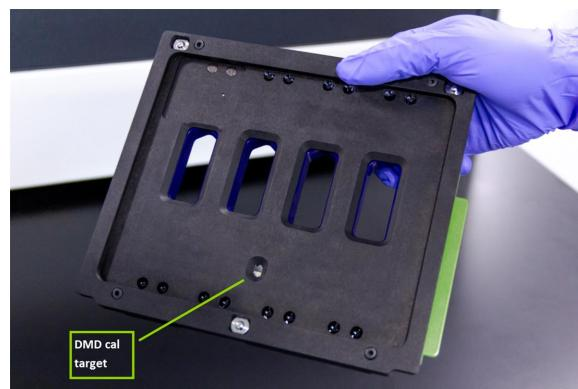

Figure 100: Underside of slide holder with DMD calibration (DMD cal) target indicated
5. Visually inspect the digital micromirror device (DMD) calibration target (see Figure 100) to ensure it is clear of all debris. Do not contact the target unless necessary to gently wipe away debris. DO NOT apply pressure to the target.